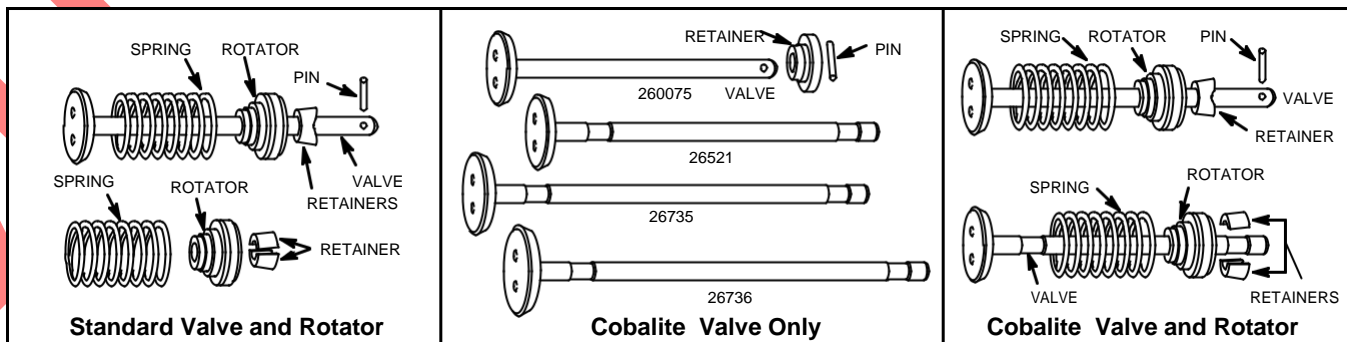
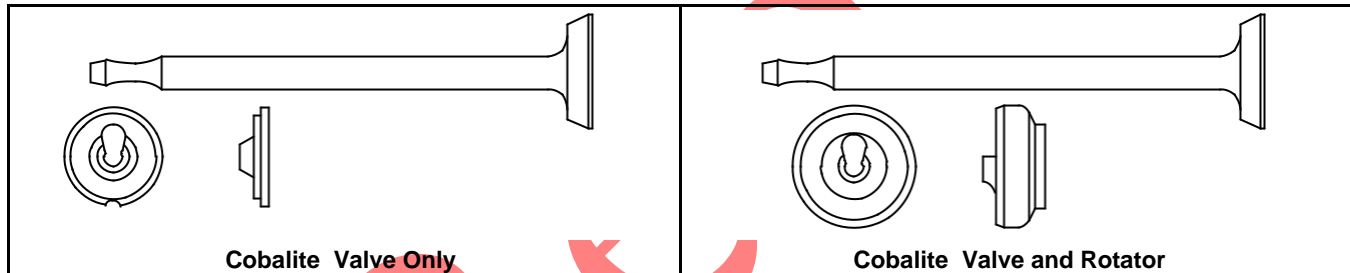

Fig. 536
Fig. 537
- C. For LP or Natural gas, use a Cobalitet valve without rotator, see Table No's. 31 or 32, Pages 22 or 23, using Fig. 536 or Fig. 537 to determine type of retainer being used.